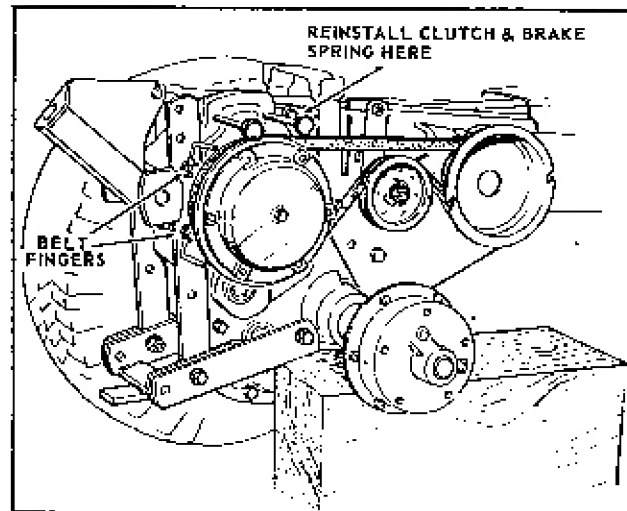

FIGURE 1
5. Install the two belt stop fingers as indicated in Figure 1.
14. Re-install the clutch and brake spring on bracket. Refer to Figure 1.